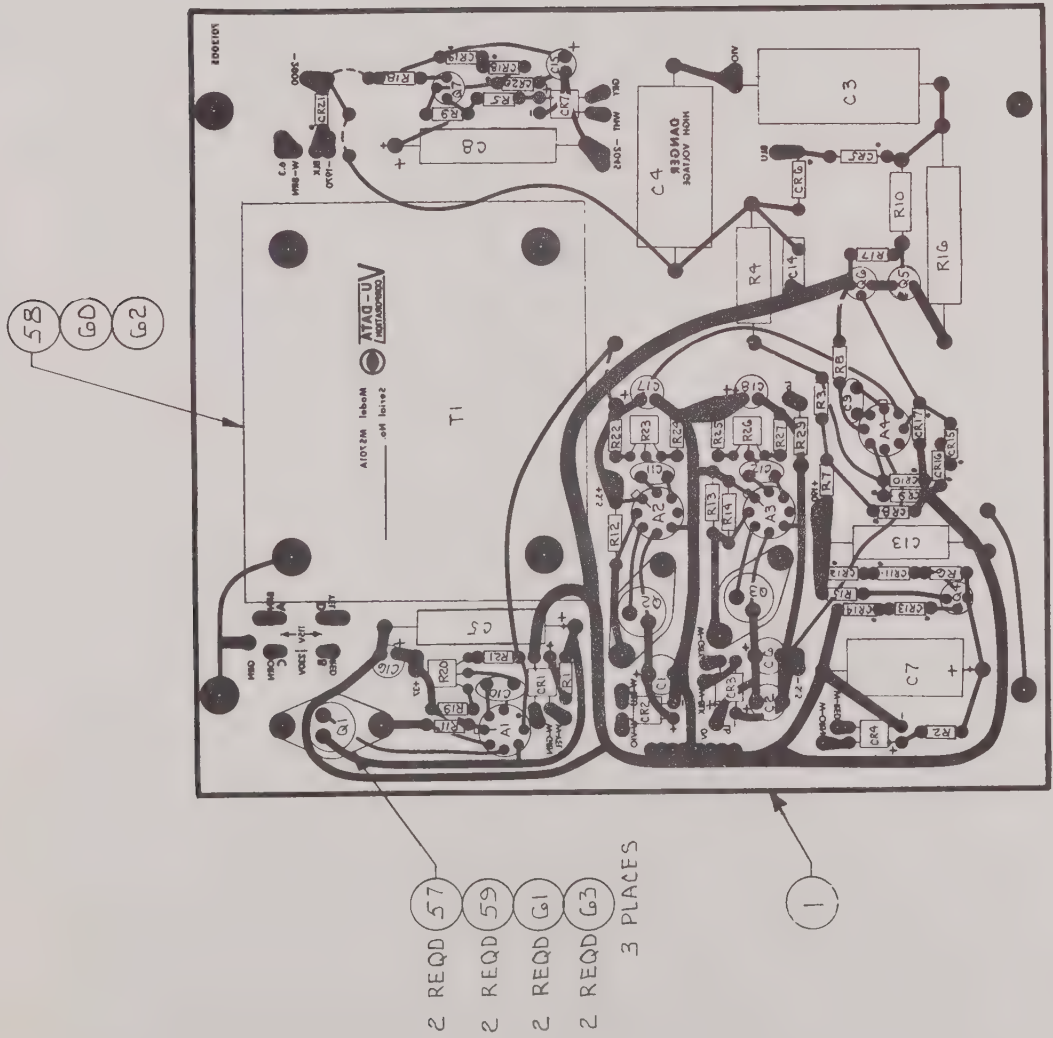

Figure 7-1. Power Supply Parts Location
- Figure 7-1. MS701 Power Supply Parts Locations